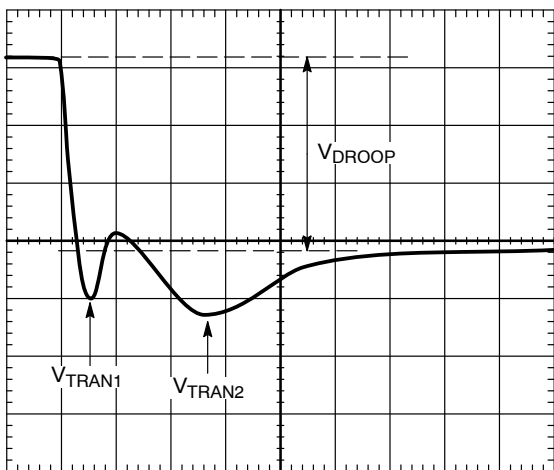

Figure 33. Transient Setting Waveform, Load Step
15. Users should see a waveform that is similar to the one in Figure 33. Use the horizontal cursors to measure  $V_{ACDRP}$  and  $V_{DCDRP}$  as shown. Do not measure the undershoot or overshoot that occurs immediately after the step.
19. With dynamic load still set at the maximum step size, expand the scope time scale to see  $2 \mu\text{s}/\text{div}$  to  $5 \mu\text{s}/\text{div}$ . A waveform that has two overshoots and one minor undershoot can result (see Figure 33). Here,  $V_{DROOP}$  is the final desired value.